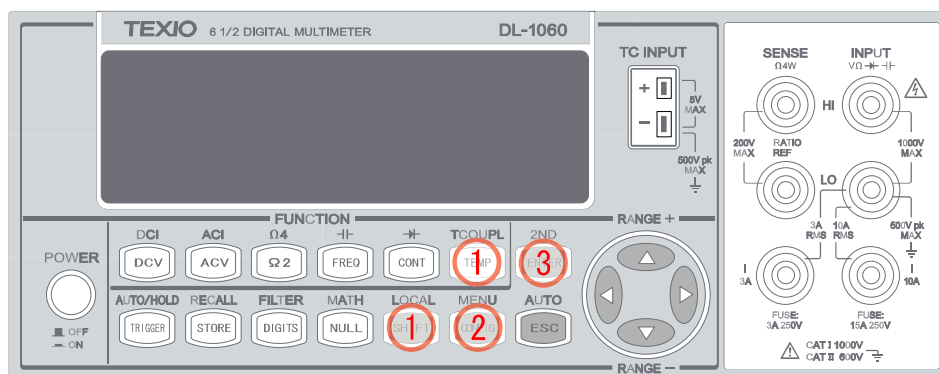

Figure 3-12
1. Press SHIFT+ TEMP to choose thermocouple function as shown in **Figure 3-12**